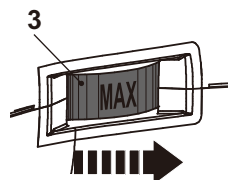

Fig. 9
3. Turn the speed dial (3) right (as seen from the operators position) to decrease the maximum speed (Fig. 9). A lower setting is suitable for sanding with coarse-grained sanding belts to remove paints and varnishes.